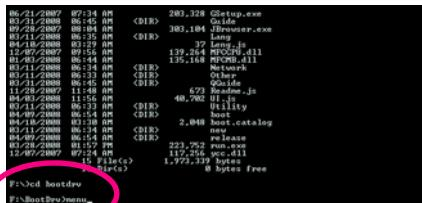

Figure 1
Step 1: Insert the prepared startup disk and motherboard driver disk in your system. Boot from the startup disk. Once at the A:> prompt, change to your optical drive (example: D:>). At the D:> prompt, type the following two commands. Press <Enter> after each command (Figure 1):